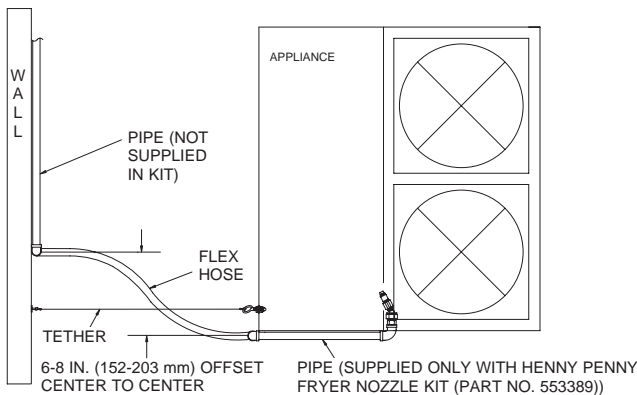

FIGURE 4-26
7. Hose ends are to be offset 6-8 in. (152-203 mm) center to center of fittings (see Figure 4-26) to maximize hose life expectancy and facilitate appliance movement. With the appliance in its normal operating position, check the hose bend to make certain the bend is not less than a 3 in. (76 mm) bend radius (6 in. (152 mm) diameter).